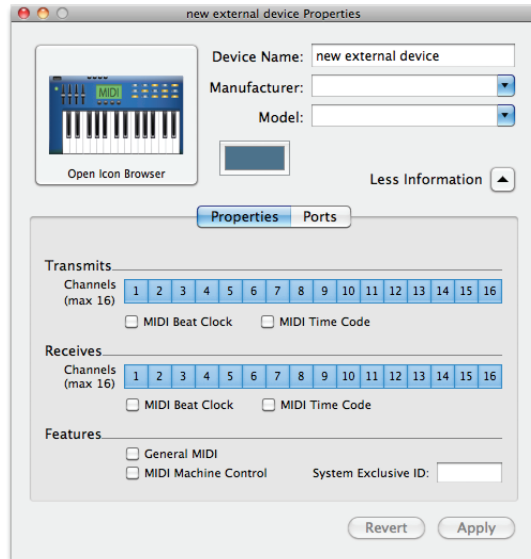

Figure 3-3: Device settings.
- 1 Double-click on the first device in *Audio MIDI Setup* and disable some channels, as shown in Figure 3-3 on page 19; leave others enabled.